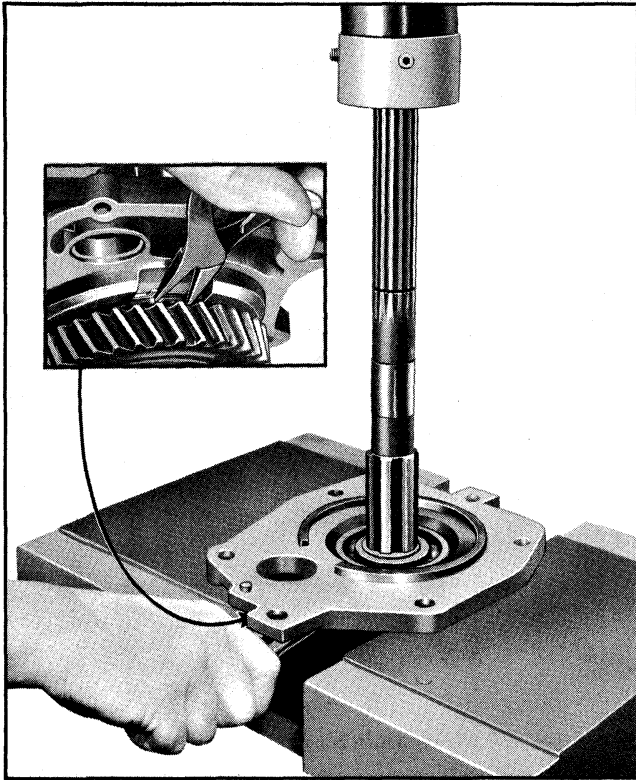

Fig. 7A-21 Removal of Mainshaft from Rear Bearing Retainer
18. Remove mainshaft front snap ring, as shown in Fig. 7A-20, and slide third and fourth speed clutch assembly, third speed gear and synchronizing ring, from front of mainshaft.